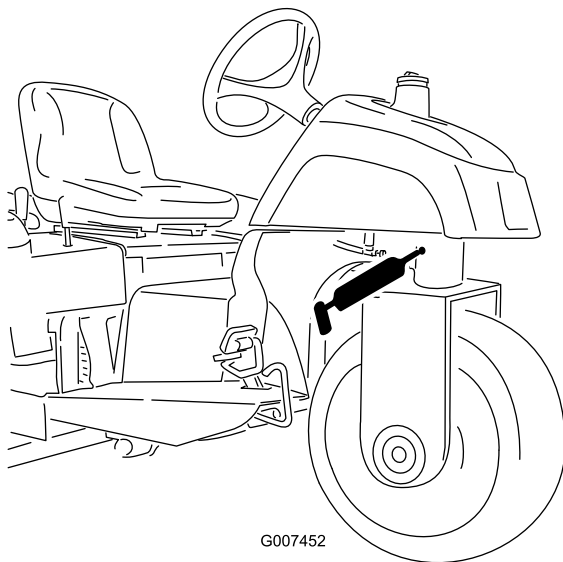

Figure 25
- Steering pivot (Figure 25)
Note: The flush fitting on the steering pivot (Figure 25) requires a grease gun nozzle adapter. Order Toro Part No. 107-1998 from your Authorized Toro Distributor.